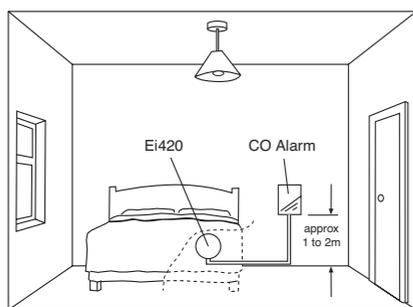
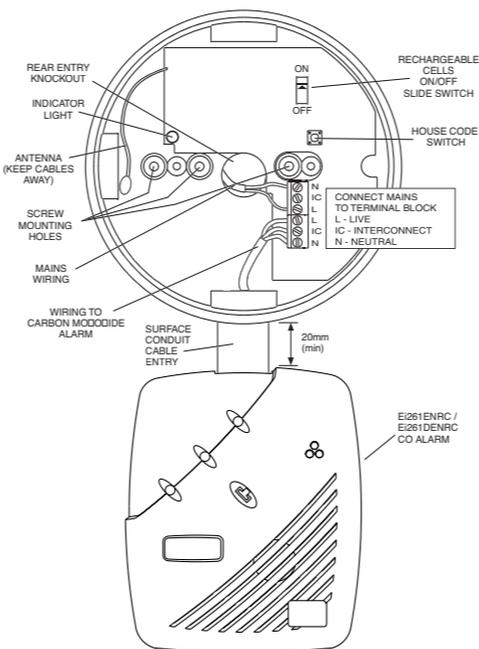
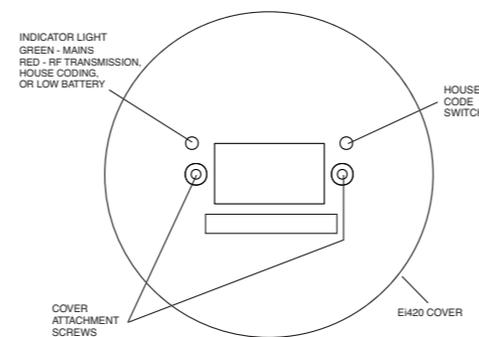

Figure 1
Figure 3a - Connecting an Ei420 to an Ei261ENRC or an Ei261DENRC CO Alarm
Figure 3b
If using the Ei420 as a **RadioLINK** interface with a CO alarm then it should be mounted close to the alarm. It can be mounted a short distance away as shown in Figure 1 or it can be mounted directly above the alarm as shown in Figure 3a.
2. Where the incoming wiring is on the surface of the wall/ ceiling, the appropriately sized trunking / conduit must be chosen to mate with the unit. There is only one suitable surface cabling knockout as shown in Figure 3a (the other two surface entries are not recommended as the wiring may affect the antenna signal). Leave at least 20mm gap to allow the CO Alarm to be slid on to the mounting plate. There is also one rear entry knockout (see Figure 3a). Unscrew the cover attachment (see Figure 3b). Use a sharp knife to remove the material from the knockout, making sure that there is no gap when mated with trunking/conduit.
3. Screw the Ei420 to the wall or ceiling after first removing the required knockout and bringing the house wires through it (see Figure 3a).
5. Activate the rechargeable cells by carefully and gently sliding the switch to the "on" position (see Figure 3a). This switch must be in the "on" position to ensure correct operation.
7. Connect the mains power to the Ei420 module. Check the green light is on. If the green light changes to red every 10 seconds then switch off the mains power, remove the cover and check that the battery slide switch is in the "on" position (see Figure 3a). Replace the cover and turn the mains power back on. If there is still a problem the rechargeable cells may be depleted. Leave the unit on mains power for 2 hours to charge and check that the green light is now on continuously.
8. Press and hold the House Code switch through the hole in the cover using a small screwdriver, (see Figure 3b) until the green light changes to red. Immediately release the switch and the light will flash red quickly. The green light will then flash red every 5 seconds (this is a dual colour light so the green light remains on when the red light is off and vice versa). Similarly, put all the other **RadioLINK** units in the property into House Code Mode (see relevant user instructions) within 15 minutes (before the House Code timeout period expires).
(ii) The green light will turn off. Check that the red light is not flashing once every 10 seconds. (If it is, this indicates that the rechargeable cells are depleted. Remove the cover and check that the rechargeable cell 'on/off' switch is in the "ON" position - see Figure 3a. Re-fit the cover and reconnect the mains. If it is still flashing red, leave it for 2 hours to charge and then re-check. If it continues to flash red every 10 seconds then it may be defective and must be replaced - see Section 6 - "Getting Your Ei420 Serviced").
If your Ei420 fails to work after you have carefully read all the instructions, checked that the unit has been installed correctly, and is receiving AC power (green light on) contact Customer Assistance at the nearest address given at the end of this leaflet. If it needs to be returned for repair or replacement, open the cover and turn off the rechargeable cells slide switch (see Figure 3a). Put the unit in a padded box and send it to "Customer Assistance and Information" at the nearest address given on the unit or in this leaflet. State the nature of the fault, where the unit was purchased and the date of purchase.